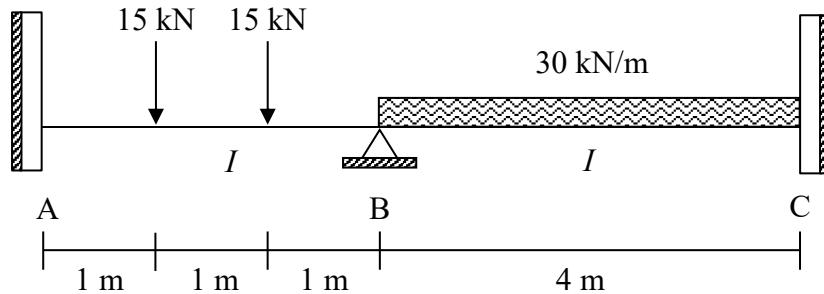

Figure B3(c) / Rajah B3(c)
- i. Calculate the final moment for each span of the beam in Figure B3(c) by using the Moment Distribution Method.